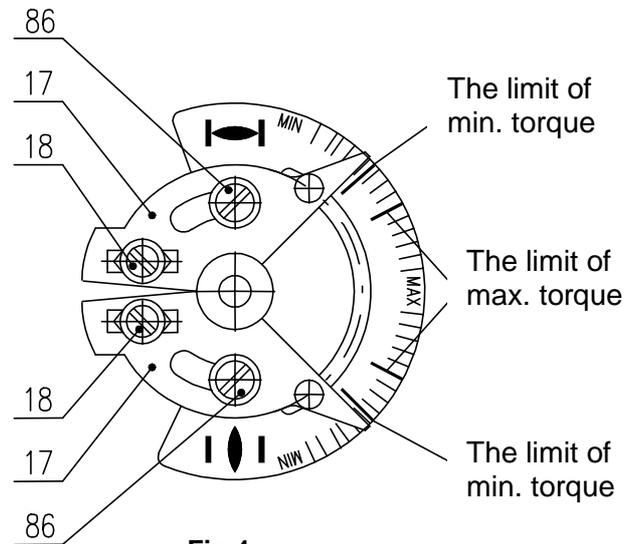
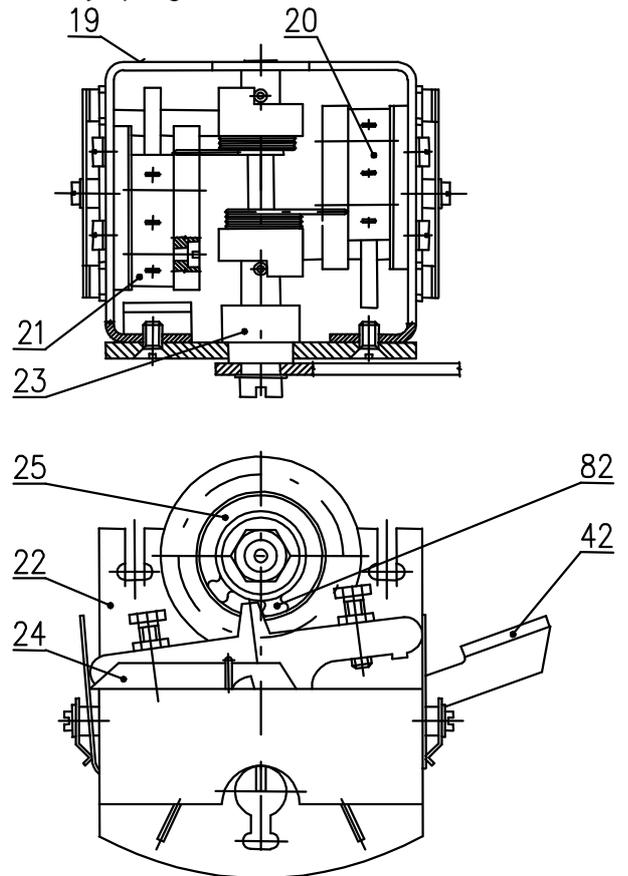

Fig.4
Fig.5
Check of torque switches (Fig.4,5). When the actuator moves towards "close" and at torque switches connection to "torque switching-off" should be contacts of switch S2 switched over by pressing of disconnecting bell (24)(Fig.5) of relevant switch. If the connection is properly performed, the actuator must stop. When the torque switches are connected for "signalization" only, signalization on control box panel will be activated.
- torque disk (**Fig. 4**)
- torque unit (**Fig. 5**) with locking mechanism (82) (**Fig. 5**)
Torque disk (**Fig. 4**) is assembled on torque shaft discharged from power transmission (**Fig.2**). Steer angle of torque disk is proportional to torque moment of output shaft of electric actuator. Its magnitude can be adjusted by segments (17) and by shifting of backstops (18) (**Fig. 4**). Achieved torque moment value is from torque disk transferred on torque unit by means of torque lever (42) (**Fig. 5**).
Torque unit (Fig.5) consists of a carrier, on which are displaced switches S1 (20) and S2 (21). On the shaft (23) are mounted disconnecting levers (24), keeping switches pressed by spring tensions until a moment when the shaft is turned out of the mesh of torque disconnection.
Locking mechanism (82) (Fig.5) provides locking of torque disconnection usually to 1 or 2 turns after reversing of electric actuator. After elapsing of adjusted revolution will torque unit acquire its original function.
Disconnecting torque can be adjusted only in connection with a device for torque measurement and only within relevant range, according to specification table, by rough regulation (17) and soft regulation (18), (Fig.4).
Adjustment of disconnecting torque by means of segments (17), (Fig.4), can be performed only within highlighted interval MIN – MAX on torque disk within relevant power range of electric actuator.